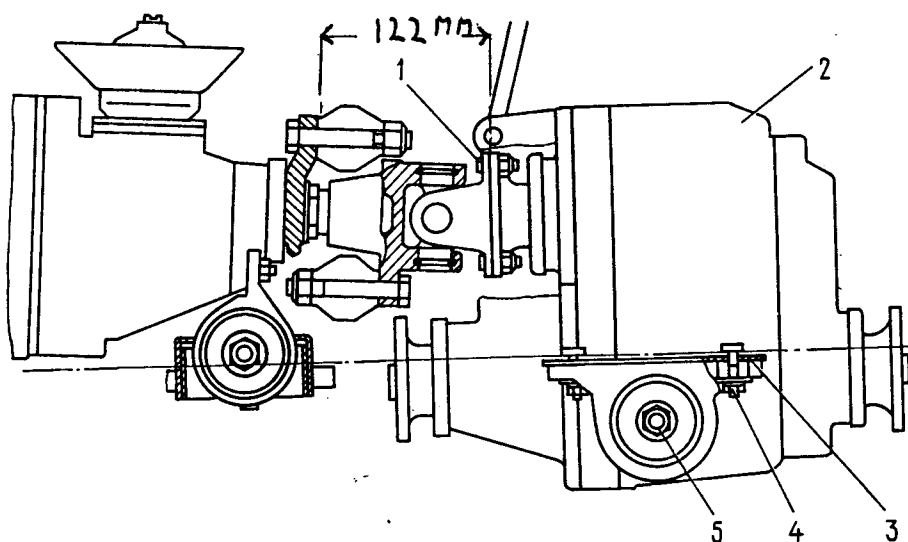

Fig. 3-41. Transfer Case Installation Diagram:
- mount the transfer case on the car without tightening completely the transfer case mount bracket nuts 4 and 5 (Fig. 3-41);